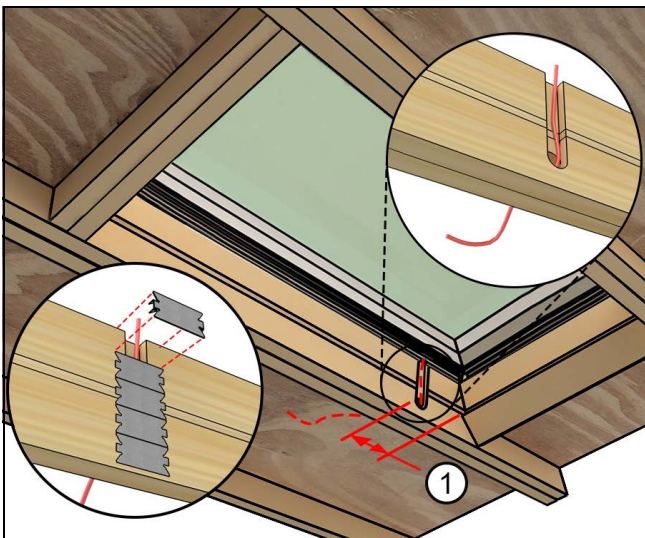

Figure 32
4. If installing an **Awaken product**, create a notch in rough opening for the power wire as needed. The center of the notch is nominally 1-3/8" to the sill RO edge. See Figure 32. Create notch large enough to run Romex cable per applicable electrical specification. Notch can be covered with plates as needed. If the drywall is not installed tight into the lining groove, add on-site insulation and trim for finished appearance and to prevent conditions that may contribute to condensation. *Note: Electrician needs to meet or exceed local codes. Unshielded wire should be covered by plate, anything under 1-1/2" no plate is required. Electrical route may need to be notched.*